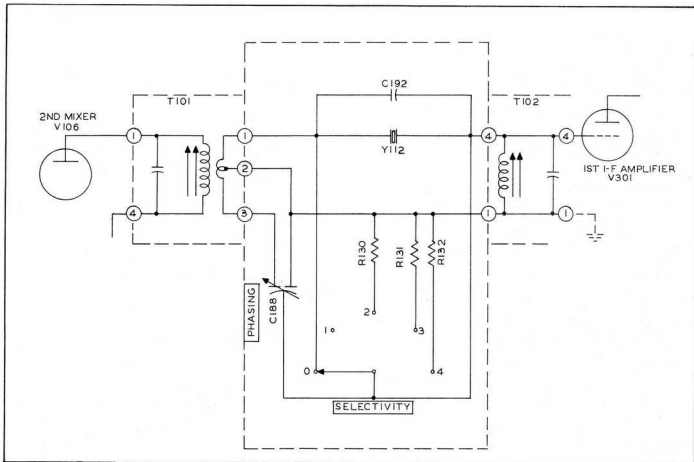

Figure 4-4. 51J-4 Crystal Filter
4. 2. 7. CRYSTAL FILTER. - Selectivity of the 51J-4 Receiver is improved greatly by use of a crystal filter in the 500-kc i-f channel. The crystal filter circuit consists primarily of 500-kc i-f input transformer T101, a 500-kc crystal, and a high impedance tuned circuit T102, connected as shown in figure 4-4. When SELECTIVITY switch S114 is in position 0 the crystal is shorted and T101 is connected directly to T102. Thus there is no crystal filter action when S114 is in position 0; selectivity is determined by the receiver's tuned circuits alone. When S114 is in any other position, crystal filter action takes place--position 4 giving the greatest selectivity.